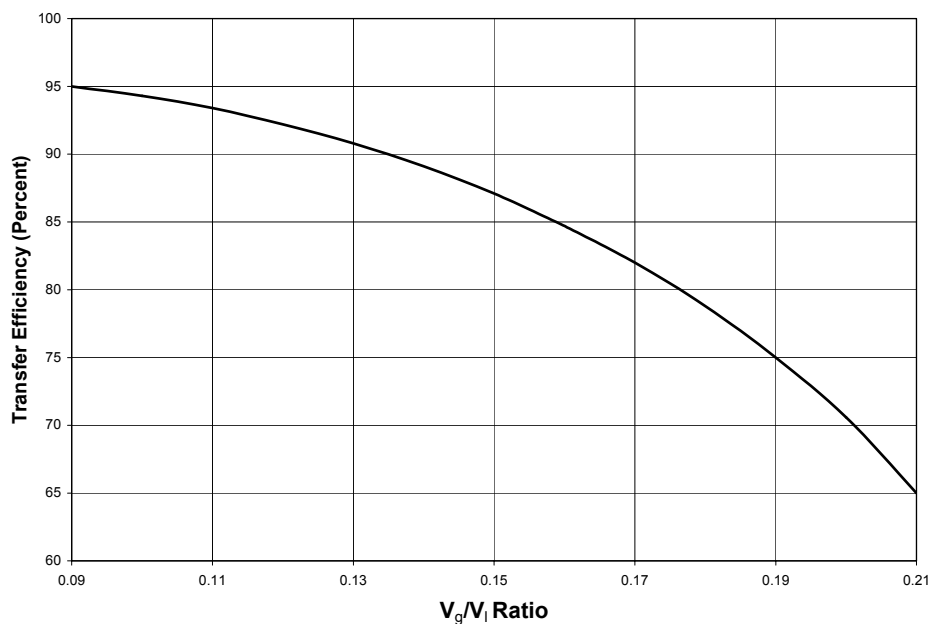

Figure A.1 – Side Stream System Transfer Efficiency (duplicate)
**SSI-4** Identify the **actual transfer efficiency** using the calculated  $V_g/V_l$  ratio and Figure A.1.
- Using Figure A.1, find  $V_g/V_l$  ratio amount on the horizontal axis and move vertically until curve intersection.